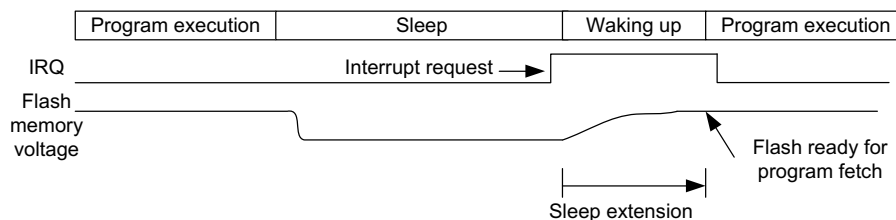

FIGURE 23.11
- **Sleep features:** Wakeup Interrupt Controller (WIC) and State Retention Power Gating (SRPG) support added. In order to allow the processor system to reach an even lower power state in sleep mode, the WIC interface has been added to the NVIC and SRPGS support is included. (See section 9.2.8 for details.) At the system design level, the existing sleep features have also improved. In revision 2, it is possible for the wake up of the processor to be delayed. This allows more parts of the chip to be powered down (e.g., flash memory; Figure 23.11) and the power management system can resume program execution when the system is ready. This is needed in some microcontroller designs where some parts of the system are powered down during sleep, as it might take some time for the voltage supply to stabilize after power is restored.